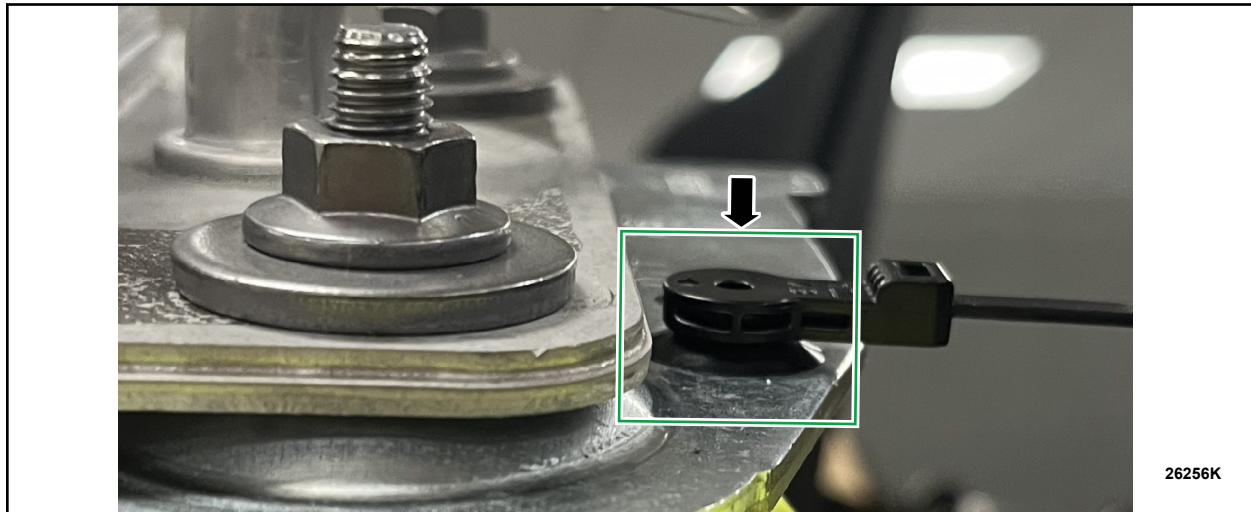

FIGURE 2
- The push-pin on the push-pin retainer is fully seated in the transmission fluid heat exchanger bracket. See Figure 2 - No action is required. This FSA is complete.